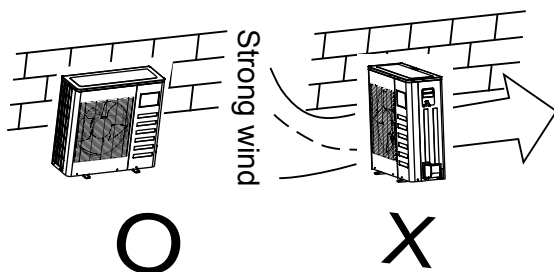

Fig.6-1
- In the case that the installation place is exposed to strong wind such as a seaside, make sure the fan operating properly by putting the unit lengthwise along the wall or using a dust shield. (Refer to Fig.6-1)